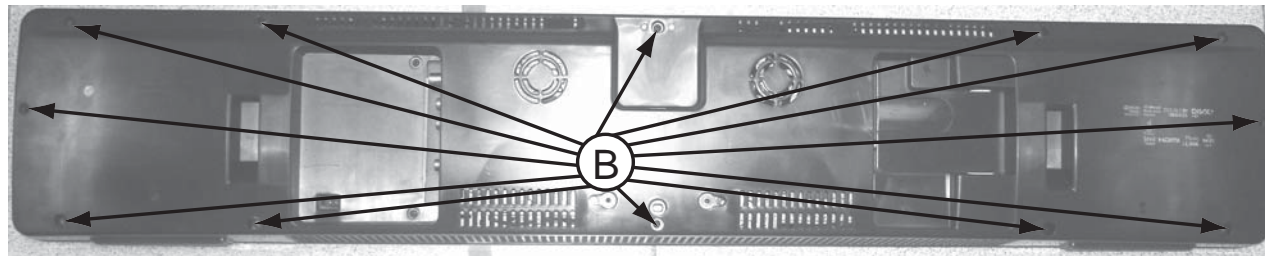

Figure 2
- 2) Loosen 12 screws "B" at the rear panel to remove rear panel as shown in figure 2.